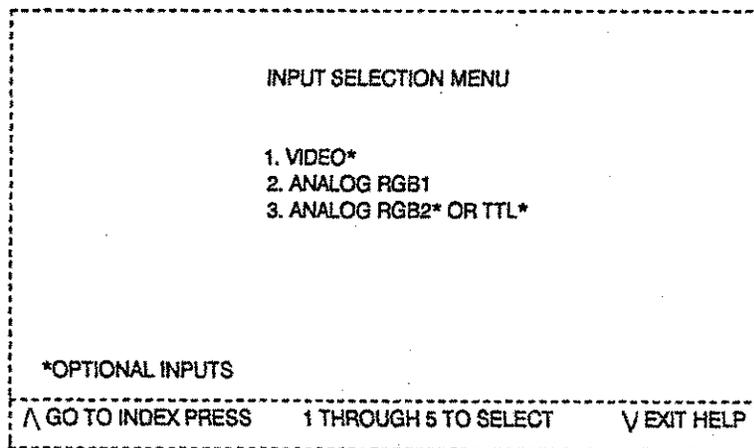

FIGURE 9-6
- 1. INPUT SELECTION MENU: This selection will switch you to the following on- screen menu for your selection of a brief description of the different modes of operation. See figure 9-6.